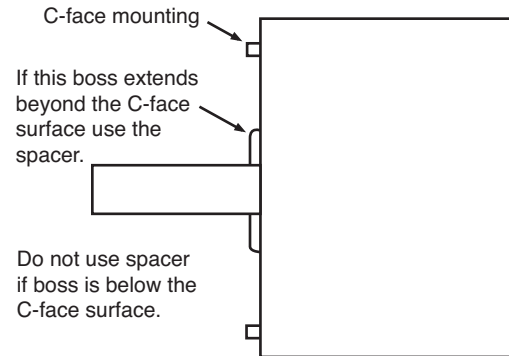

Figure 10
3. When using the EM-180-20 a possible interference may exist between the splined armature hub and some motors. (See Figure 10) A spacer ring is provided with the EM-180 mounting accessory to provide the necessary running clearance.